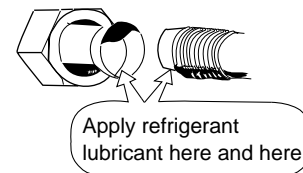

Fig. 45
- Be sure to apply refrigerant lubricant to the matching surfaces of the flare and union before connecting them together. This is effective for reducing gas leaks. (Fig. 45)